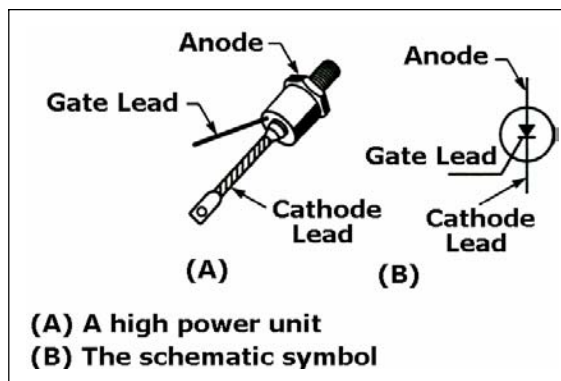

Figure 3-17. Silicon Controlled Rectifier Schematic
3-34. The SILICON CONTROLLED RECTIFIER is one of the families of semiconductors that include transistors and diodes. Figure 3-17, views (A) and (B) shows a drawing of an SCR and its schematic representation. Not all SCRs use the casing shown. However, this is typical of most of the high-power units.